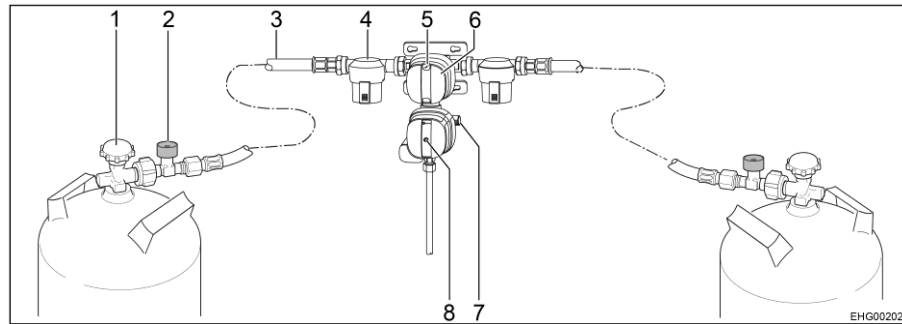
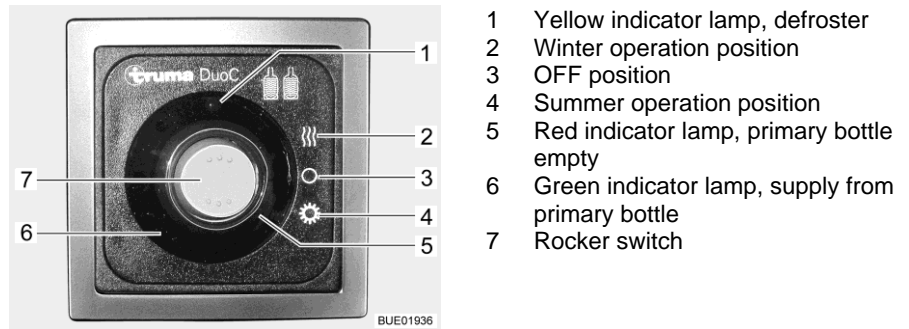

Fig. 65 Safety gas pressure regulating system DuoControl CS
Fig. 66 Operating unit (DuoControl)
The DuoControl regulating system consists of a reversing valve and a crash sensor. The DuoControl regulating system is installed between the high-pressure hoses (Fig. 65,3) with hose break guard (Fig. 65,2). The knob (Fig. 65,6) on the reversing valve is used to select which of the gas bottles is to be used as primary bottle and which is to be used as reserve bottle.
The status of the gas supply is indicated in the inspection window (Fig. 65,5):
The crash sensor blocks the gas supply in the event of a significant impact (e.g. accident). The situation of the yellow reset button (Fig. 65,8) indicates the operating status of the crash sensor:
- If the yellow reset button (Fig. 65,8) is in the pressed-in position, the crash sensor is ready to operate.
- If the yellow reset button (Fig. 65,8) is protruding, the crash sensor is **not** ready to operate. Putting into operation, see below.
The hose break guard (Fig. 65,2) blocks the gas flow if the connected hose breaks. The hose break guard must be activated by pressing the green button.
The operating unit shows the status of the primary bottle. When the green indicator lamp (Fig. 66,6) illuminates, the primary bottle is full. When the red indicator lamp (Fig. 66,5) illuminates, the primary bottle is empty. In this case, the reserve bottle is used for the gas supply.
If the heater of the DuoControl regulating system (defroster) is active, the yellow defroster indicator lamp (Fig. 66,1) is lit.
In addition, the operating unit (Fig. 66) is also used to set summer operation or winter operation.
- Press lower part of the rocker switch (Fig. 66,7) (summer operation position (Fig. 66,4)).
- Press upper part of the rocker switch (Fig. 66,7) (winter operation position (Fig. 66,2)).
- Use the knob (Fig. 65,6) on the reversing valve to select the gas bottle which is to be the primary source of gas (primary bottle). Always turn the knob as far as it will go.
- Open regulator taps (Fig. 65,1) on the gas bottles.
- Press and hold the green button of the hose break guard (Fig. 65,2) for about 5 seconds. The green marking is shown in the inspection window (Fig. 65,5).
- If the crash sensor has triggered (the yellow reset button (Fig. 65,8) is protruding):
Press the yellow reset button (Fig. 65,8) in forcefully, turn it slightly in a clockwise direction and hold it for about 5 seconds. Make sure that the reset button remains in the pressed-in position ("ready for operation"). If it is not possible, reset the system as described: Use the Torx insert T20 on the included screwing aid to strengthen the rotary movement.
- Set the rocker switch (Fig. 66,7) to the OFF position (Fig. 66,3). The indicator lamps go out.
- Close regulator taps (Fig. 65,1) on the gas bottles.
If the green indicator lamp (Fig. 66,6) goes out during operation and the red indicator lamp (Fig. 66,5) lights up, the primary bottle is empty and must be changed. The red marking is shown in the inspection window (Fig. 65,5) of the associated gas bottle. The reserve bottle continues supplying the gas appliances with gas.
- Turn the knob (Fig. 65,6) as far as it will go in the direction of the gas bottle currently used. In this way, this gas bottle is the primary bottle now, and the empty gas bottle becomes the reserve bottle. The marking in the inspection window (Fig. 65,5) changes from red to green.
- Close regulator tap (Fig. 65,1) on the empty gas bottle. Pay attention to the direction of the arrow.
- Press the green button of the hose break guard (Fig. 65,2).